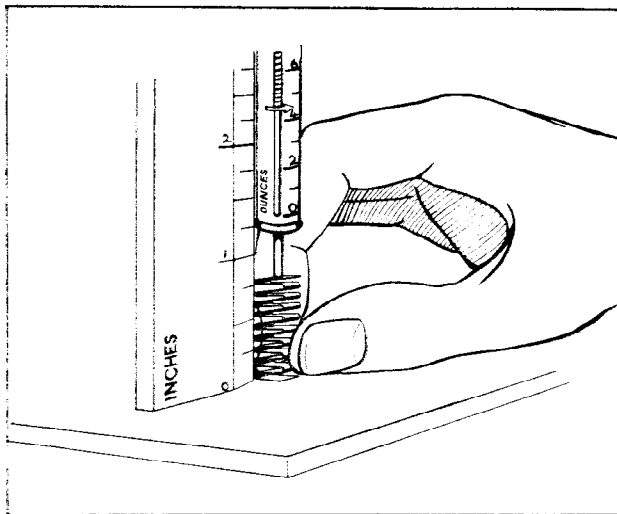

Fig. 5
- (ii) Measure the brush spring pressures. To do this, remove the brushes from their holders and withdraw each spring. With the aid of a spring balance (Fig. 5) ensure the load at $\frac{2}{3}$ " is 4—5 oz., and the load at $\frac{1}{3}$ " is $7\frac{1}{2}$ —8½ oz. If the loading at either of these compression lengths is outside the range given, a replacement brush spring is needed.